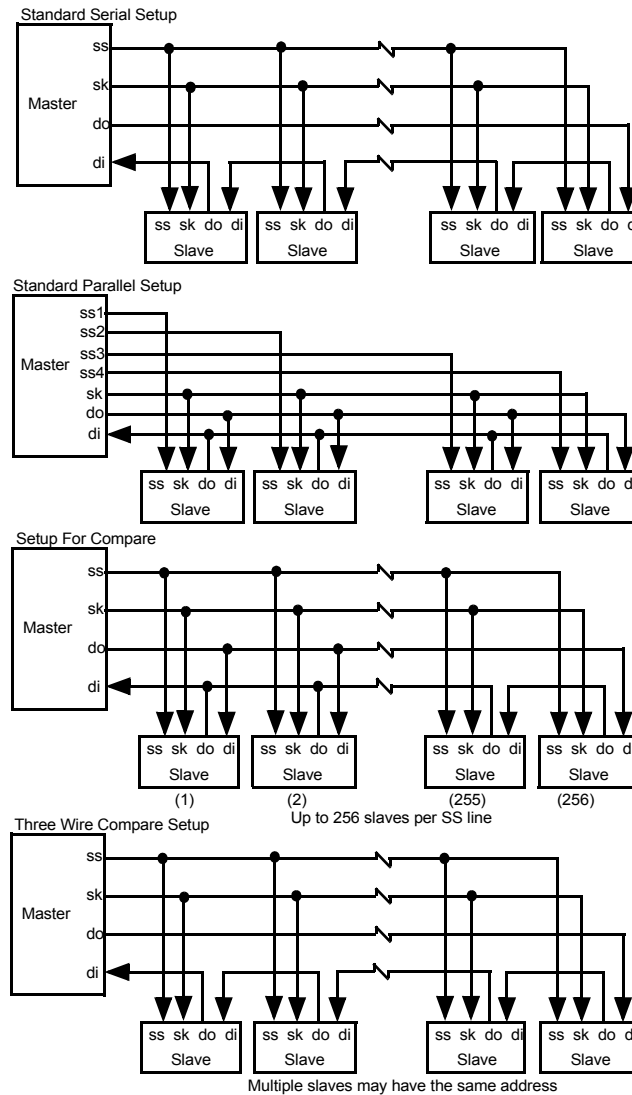

Figure 117. SPI System Configuration
The SPI is used in one of two modes: either as system slave, or as system master. Several of the possible system configurations are displayed in Figure 117 on page 126. In slave mode, data transfer starts when the slave select (SS) pin goes active. Data is transferred into the slave's SPI Shift Register through the DI pin, which has the same address as the RxBUF Register. After a byte of data has been received by the SPI Shift Register, a Receive Character Available (RCA/IRQ3) flag and interrupt is generated. The next byte of data is received at this time. The RxBUF Register must be cleared, or a Receive Character Overrun (RxCharOverrun) flag is set in the SCON Register, and the data in the RxBUF Register is overwritten. When the communication between the master and slave is complete, the SS goes inactive. When the SPI is activated as a slave, it operates in all system modes: STOP, HALT, and RUN.